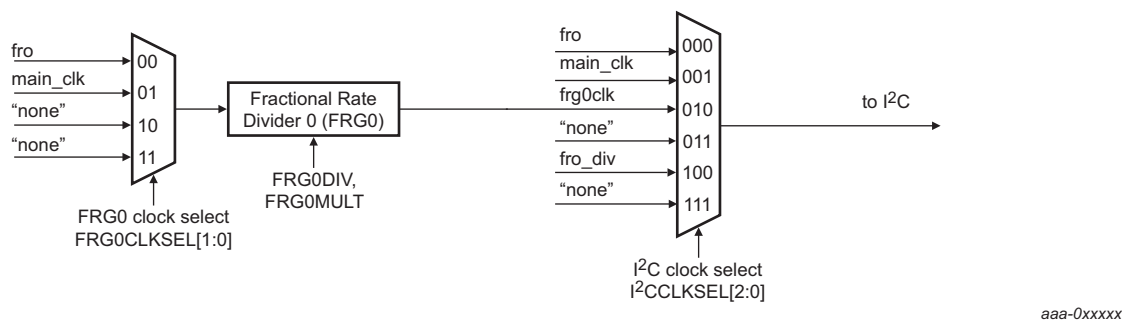

Fig 30. I2C clocking
- The peripheral clock for the I²C can be selected by the I2C0CLKSEL register among the FRO, main_clk, frg0clk, and fro_div clock sources (see Figure 30).